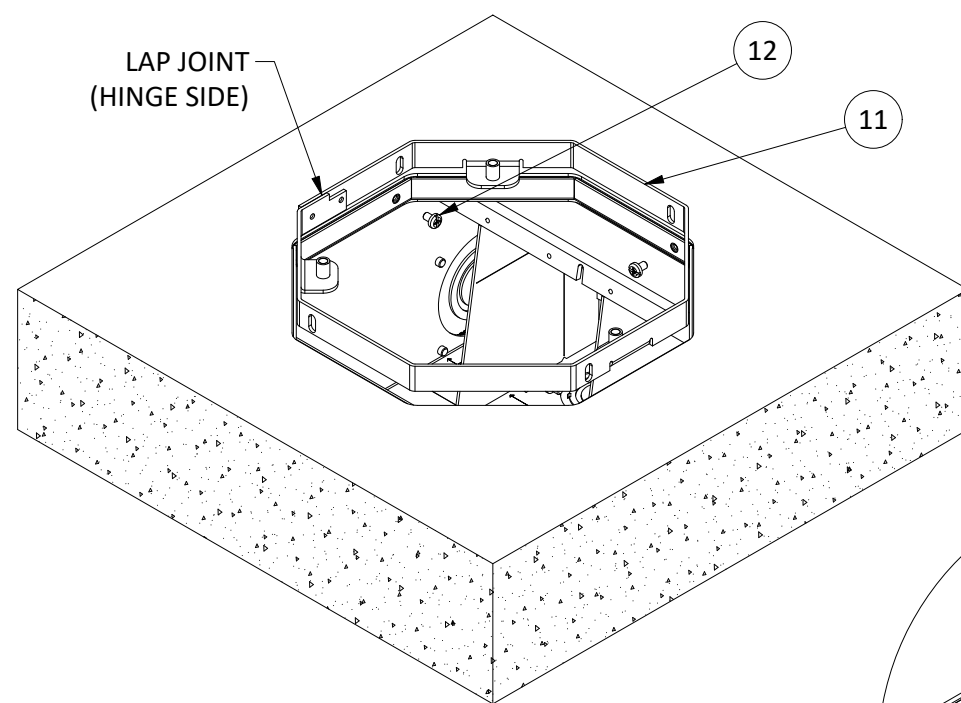

FIGURE 2
**AFTER CONCRETE POUR, SEE FIGURES 2, 3, AND 4**